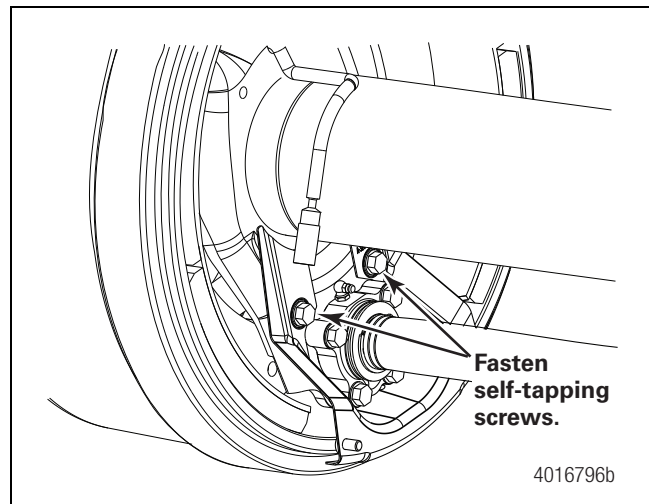

Figure 4
5. Fasten the lower dust shield to the spider using two self-tapping screws and tighten to 30-45 lb-ft (41-61 N•m). Figure 4.